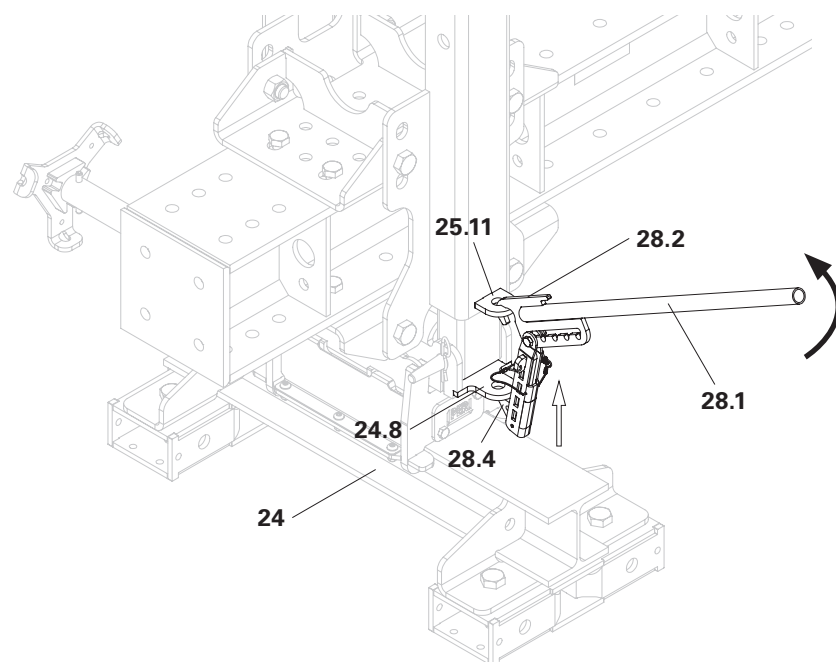

Fig. A3.07
3. Pull the lever further upwards until the hinge slide (**24**) is fully raised. (Fig. A3.07)